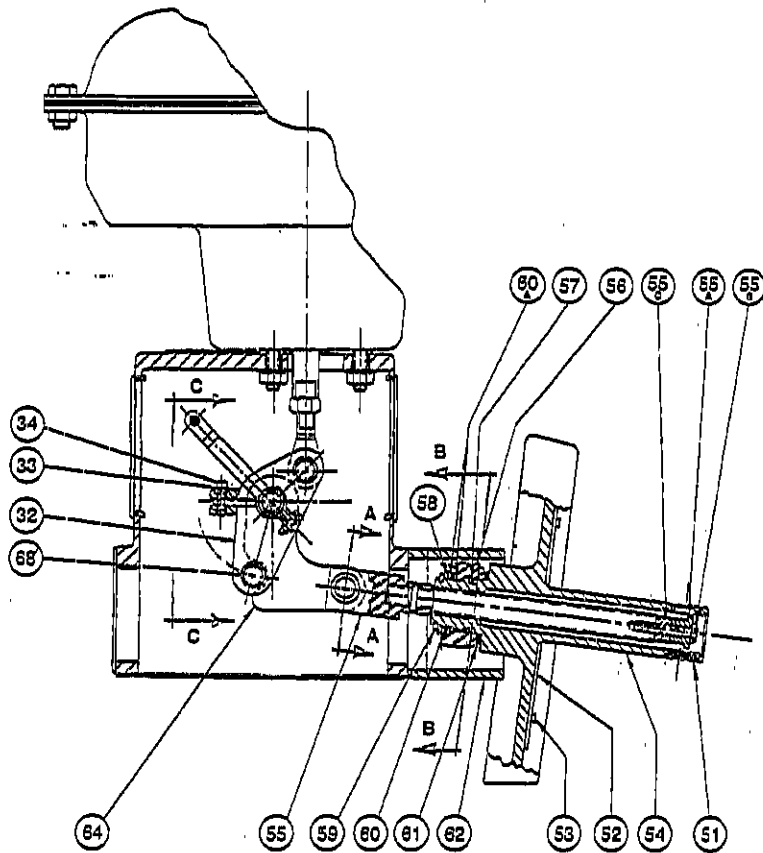

Figure 7 - Handwheel General Assembly
A. Remove retaining clips (63) and push out pin (66). Make sure bushing (65) remains in the arm (64).
B. Remove the pivot pins (72) and remove handwheel subassembly.
C. Remove handwheel shaft subassembly (55) retaining ring (59) and unscrew nut (58). Remove needle bearing and race (60). Clean and check needle bearing and race for signs of wear. Replace if necessary.
D. Remove handwheel pivot (56) and thrust washer (61). Check washer and replace if necessary. Check O-ring (57) and replace if necessary.
E. Clean ACME threads on handwheel (54) and shaft S/A (55) and grease with Molykote G.
3.4.2 Reassembly (Figure 7)
A. Install thrust washer (61) and O-ring (57). Apply silicone lubricant sparingly to O-ring.
B. Slide handwheel pivot (56) onto the handwheel subassembly. Lubricate and install bearing race, needle bearing and outer race.
C. Install nut (58) bevel side toward bearing race and screw down tight. **DO NOT OVERTIGHTEN.** Replace retaining ring (59). Correct assembly should have the nut (58) touching the retaining ring (47).